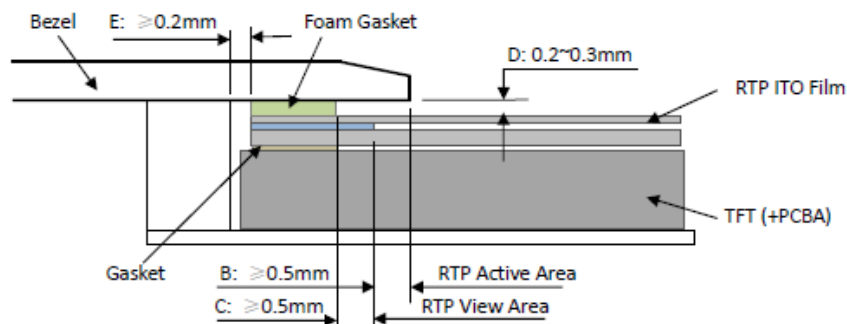

Figure 4
- It should bezel touching the RTP Active Area (A.A.) to prevent abnormal touch.It should left gab $D=0.2\sim 0.3\text{mm}$ in between. (Figure 4)
- Outer bezel design should take care about the area outside the A.A. Those areas contain circuit wires which is having different thickness. Touching those areas could de-form the ITO film. As a result bezel the ITO film be damaged and shorten its lifetime. It is suggested to protect those areas with gasket (between the bezel and RTP).The suggested figures are $B\geq 0.50\text{mm}$; $C\geq 0.50\text{mm}$. (Figure 4)
- The bezel side wall should keep space $E=0.2\sim 0.3\text{mm}$ from the RTP. (Figure 4)
- 为避免面框直接压在动作区(A.A.)上造成误动作，面框与电阻触摸屏(RTP)之间应留有一定的空隙 $D=0.2\sim 0.3\text{mm}$ 之间。(附图4)
- 设计面框时，要注意用面框保护触摸屏四周的非保证操作区域，因为布线区域在此处形成一台阶，在此区域附近操作时 ITO Film 变形较大，容易导致 ITO 损坏而降低寿命。为保护 RTP 和避免误操作，在 RTP 与面框之间垫缓冲物(Gasket)，我们建议设计面框应覆盖动作区的边缘，面框边缘到 V.A. 区的距离 $B\geq 0.50\text{mm}$ ；垫圈内边缘到 V.A. 区的距离 $C\geq 0.50\text{mm}$ 。(附图4)
- 在设计面框与 RTP 组装时，应考虑到面框内侧与 RTP 外侧的间距 $E\geq 0.2\text{mm}$ 。(附图4)